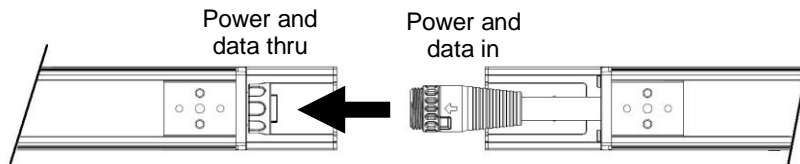

Figure 5. Interconnecting fixtures
- directly, hybrid input cable tail to hybrid throughput connector (see Figure 5) or
2. See Figure 5. Connect one fixture's throughput connector to the next fixture's input connector, either directly or with hybrid extension cables from Martin.